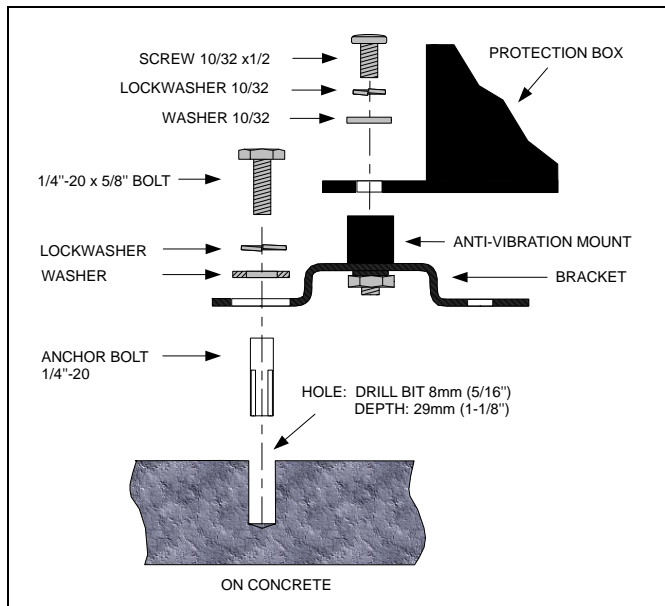

Figure 8 : Fastening the ABS protection box on concrete
2. Fasten the ABS protection box as shown (refer to *Figure 8 : "Fastening the ABS protection box on concrete"*).